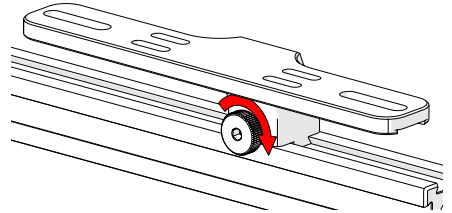

Fig. 292 - Tighten knob
2. Tighten the knob to lock preamp bracket in place (*Fig. 292*).